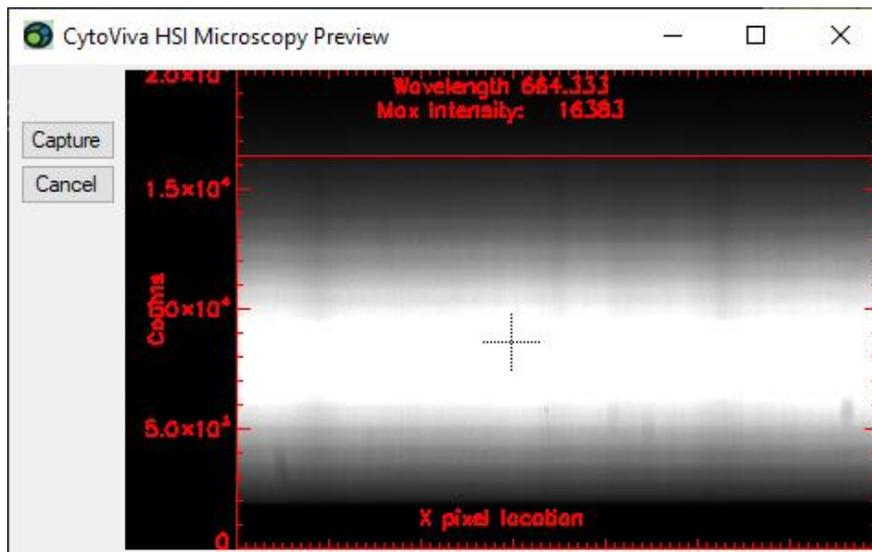

Figure 2.1c
- Preview HSI: CytoViva HSI Microscopy Preview Window - Figure 2.1c.